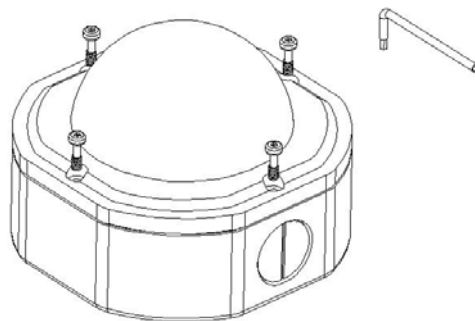

Figure 1
1. Loosen the 4 fix screws on the housing cover by using the attached wrench (Figure 1). Please pay attention not to damage the lens.